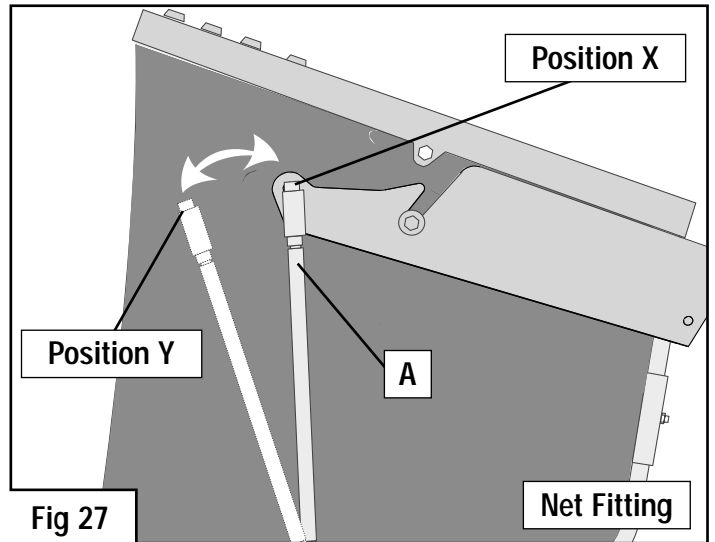

Fig 27
FITTING THE NET - Fig 27
Fit the Net as shown in fig 27 with the net rod (A) in position 'X'. To remove the net, release the net rod (A) and secure in the removal position 'Y'.